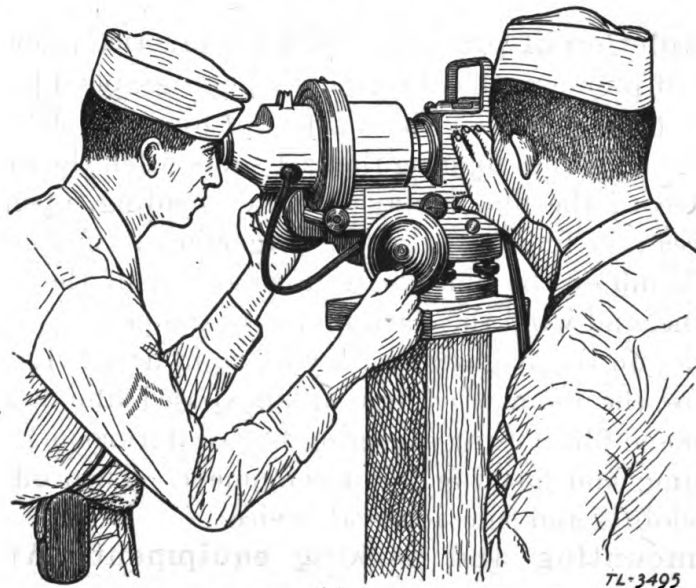

FIGURE 21.—Observer tracking and operator at "Stand by" position.
b. As the target approaches safe field of fire the O_1 operator commands: **STAND BY** (which the O_2 operator receives over a telephone system supplied by the communication section); both operators place their hands at the motor switches and are ready to turn on the camera motors. Figure 21 shows the observer tracking and the operator at the "Stand by" position, using theodolite PH-BC-33.